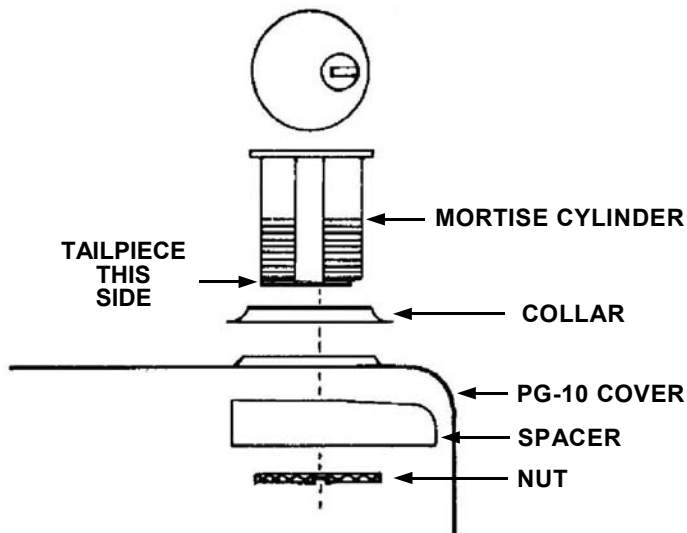

Figure 1
5. Install threaded (mortise) cylinder (1¼" long) in PG-10 cover using hardware supplied (see Figure 1). Key way must be horizontal so that tailpiece extends towards center of unit when key is turned.